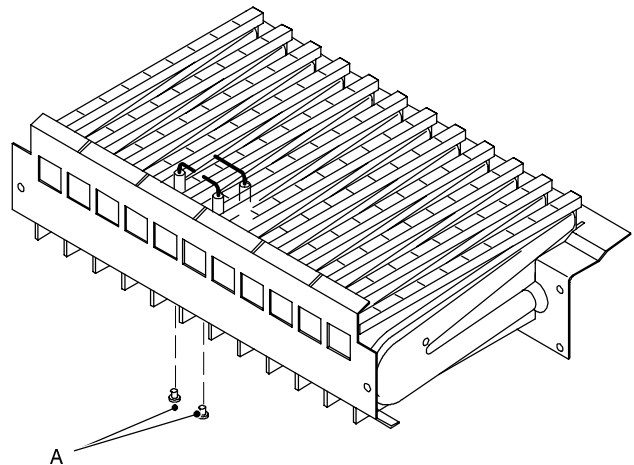

Fig. 77
- 4 Unscrew the screws A (Fig. 77) which hold the electrodes to the burner.